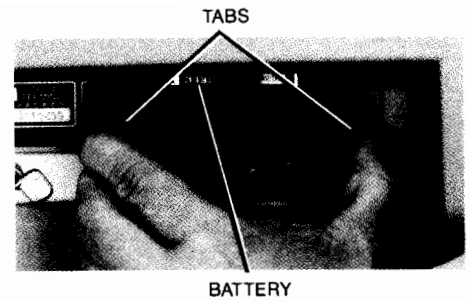

Figure 11-3. Battery Replacement
2. Squeeze the tabs (figure 11-3) toward the center of the battery support with enough pressure to disengage the flanges which hold the battery support in the terminal, and pull down to free the battery support from the terminal.